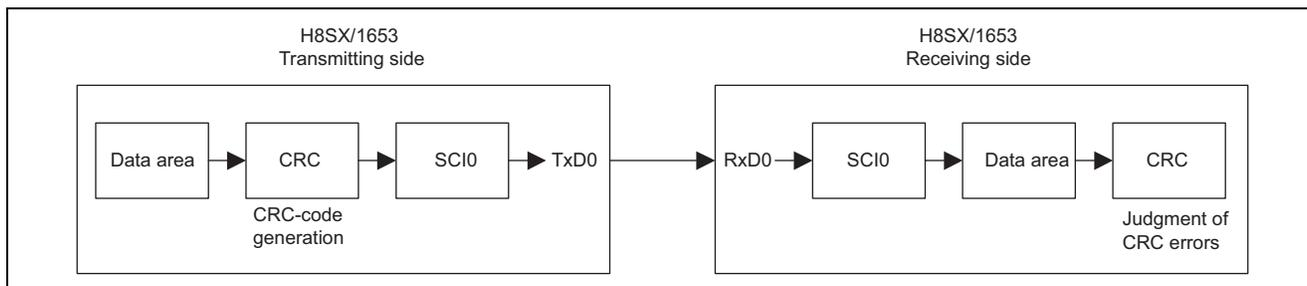

Figure 1 Asynchronous Transfer of Data with Appended CRC Codes via an SCI
- An example of the connection for this application is given as figure 1.